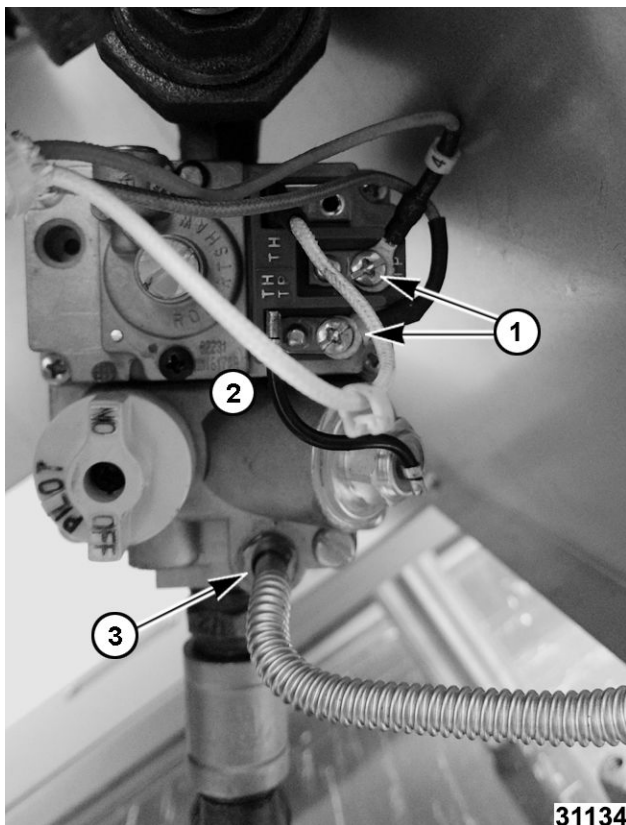

Fig. 25
4. Note and disconnect wires (1, Fig. 25) from combination valve (2, Fig. 25).
5. Disconnect pilot tubing (3, Fig. 25) from combination valve.